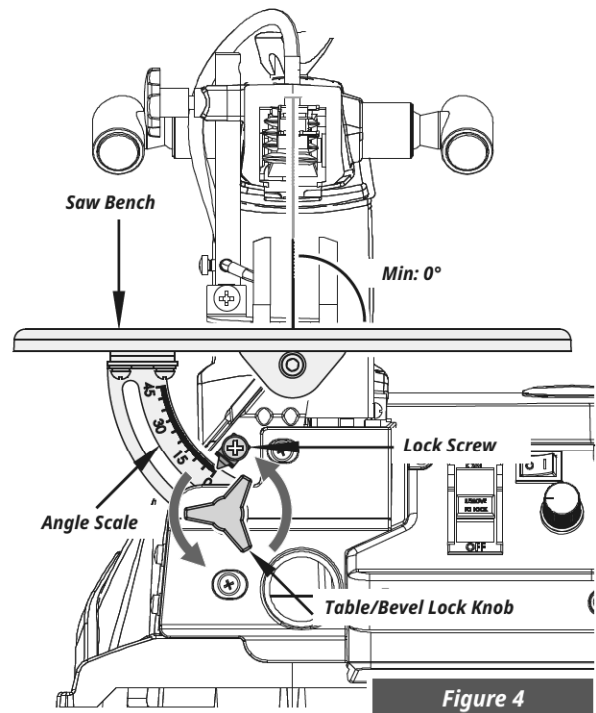

Figure 4
- Release the lock screw and bring the indicator to the zero position. Fasten the screw. Please note: the angle scale is a useful piece of supplementary equipment, but should not be used for precision work. Use scrap wood for saw tests, adjust the bench if necessary. (See Figure 4)